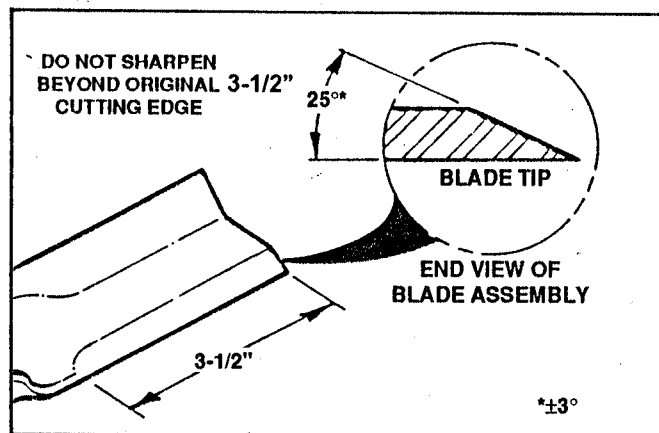

FIGURE 3.7
4. Sharpen blade on a grinding wheel at an angle of 22 to 28 degrees. The cutting surface should extend inward about 3 1/2" from the tip. See Figure 3.7.